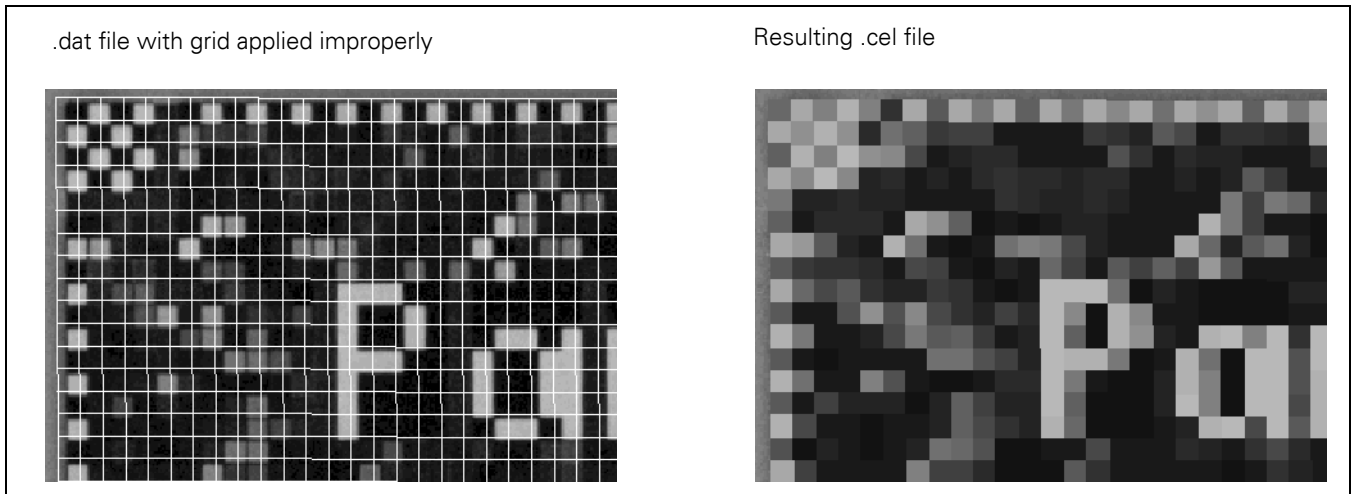

Figure 5.7 Example of High Outlier Rate Caused by Improper Gridding
- A grid that was not applied properly (see Figure 5.7).